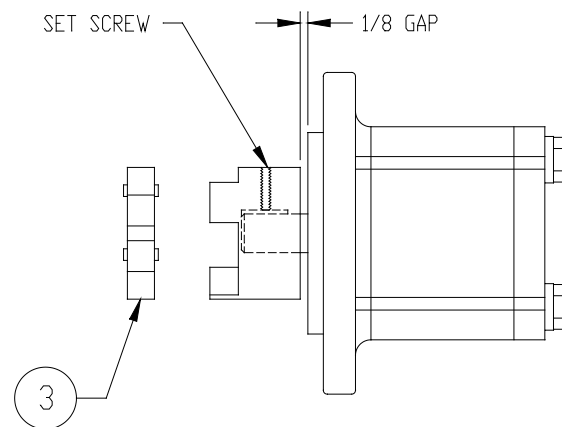

Figure 2
3. Insert the coupling spider onto the pump coupling as shown in Figure 2.